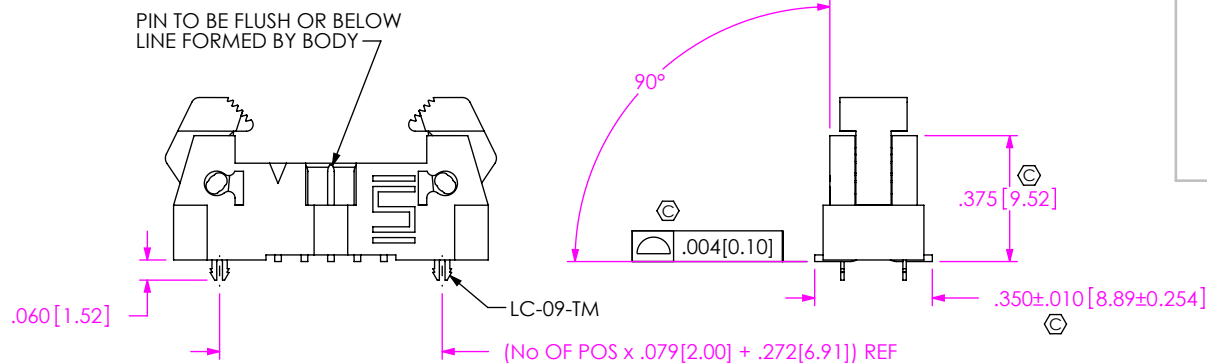

FIG 4
-LC: LOCKING CLIP (SEE NOTE 4) (FOR -SM ONLY) (SEE FIG 4, SHT 2, USE LC-09-TM)
-SM: SURFACE MOUNT (SEE FIG 4, SHT 2) (LEAVE BLANK FOR THRU HOLE)